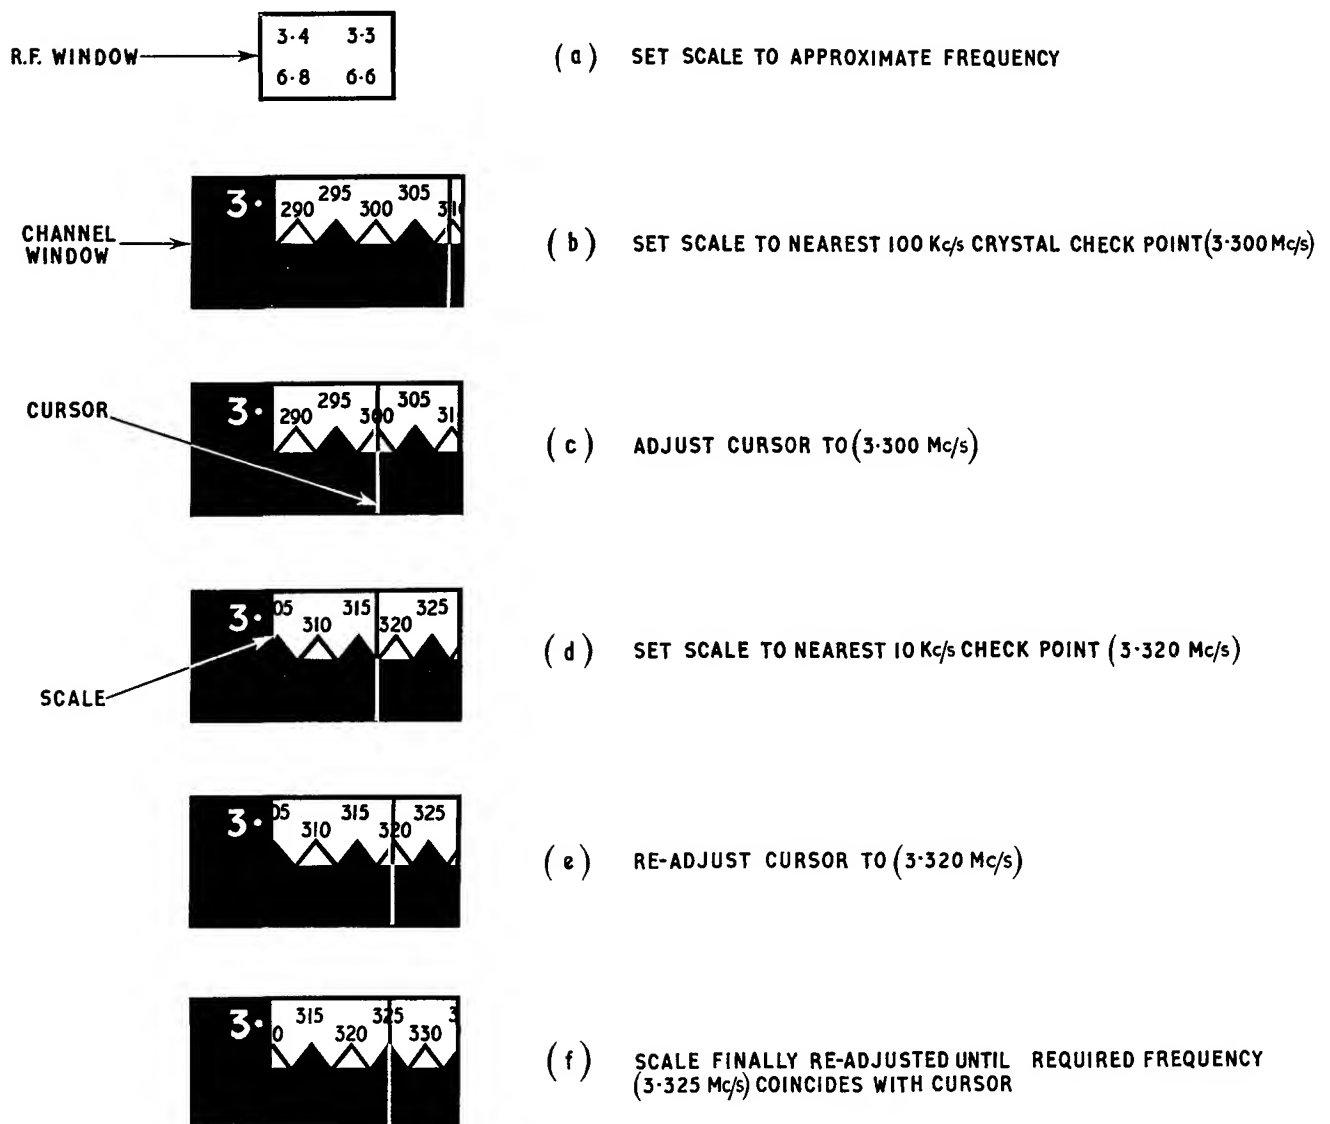

FIG. 16B SEQUENCE OF TUNING
NOTE - Fig. 16A shows an example when the required frequency is above the mid-point of the megacycle band, for which the frequency 3.8575 Mc/s is chosen. Fig. 16B shows an example when the required frequency is in the lower half of the megacycle band and for this example 3.325 Mc/s is chosen.
- (1) Turn the RANGE switch on TR A13 to the position of the required frequency.
- (2) Move the LOCK control to the RF FREE position.
- (3) Rotate the TUNE control until the figures nearest to the required frequency are shown in the centre of the RF window. In fig. 16A, inset (a), the frequency showing is 3.900 as the required frequency is 3.8575 Mc/s. In fig. 16B inset (a) the frequency showing is 3.300 as the required frequency is 3.325 Mc/s.
- (4) Turn the system switch to the CURSOR ADJ. position.
- (5) Move the LOCK control to the CHANNEL FREE position.
- (13). When the required frequency is an odd 2.5 kc/s as shown in fig. 16A (3.8575 Mc/s), or an odd 5 kc/s as shown in fig. 16B (3.325 Mc/s), rotate the TUNE control until that frequency coincides with the cursor. See fig. 16A inset (f) or fig. 16B inset (f).